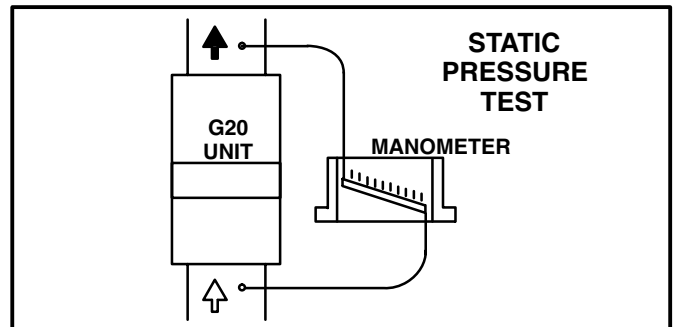

FIGURE 13
- 1- Measure tap locations as shown in figure 13.